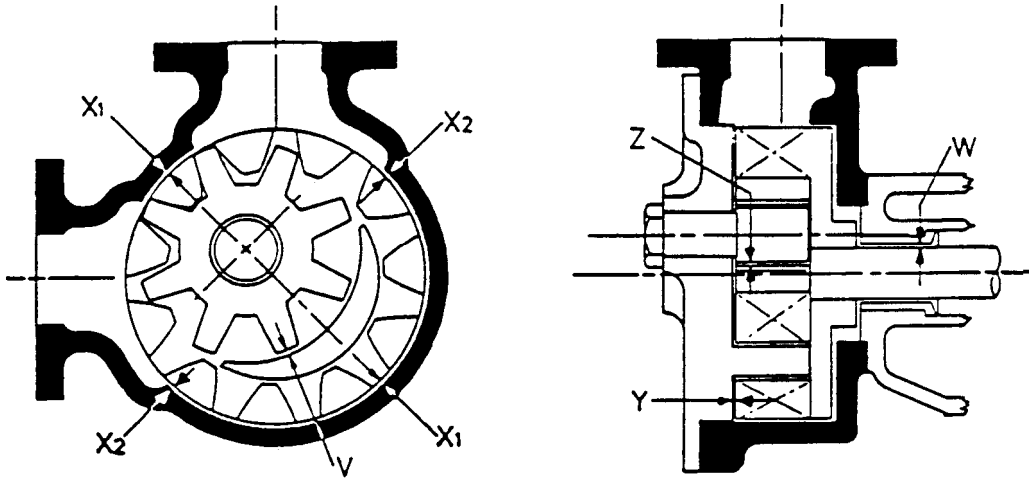

Figure 7
- iii) Lack of Bearing support at drive endTo measure clearance, insert feeler gauge at two opposite measurement points 'X₁'. Add the two clearances together. This will give the diametral clearance 'X' for the two points. Repeat this procedure for the other two measurement points 'X₂'. Refer Figure 7